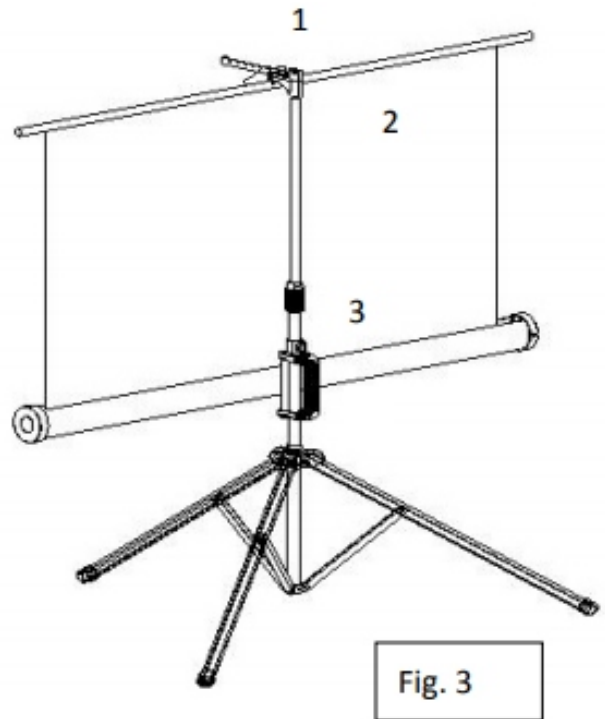

Fig. 3
B. Preparing the tripod screen for projection: Follow the steps below and Fig. 3.